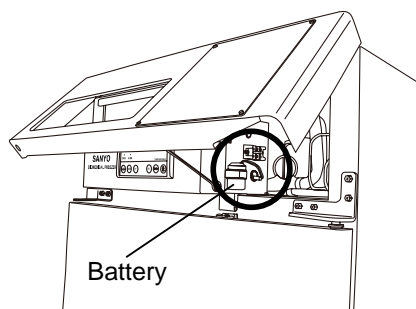

Fig. 2
2. Lift the front cover. (Fig. 2)
2. Set the automatic temperature recorder (MTR-4015LH) to the recorder fixture (MPR-S30:option) referring to a manual enclosed with the recorder fixture. (Fig.2)